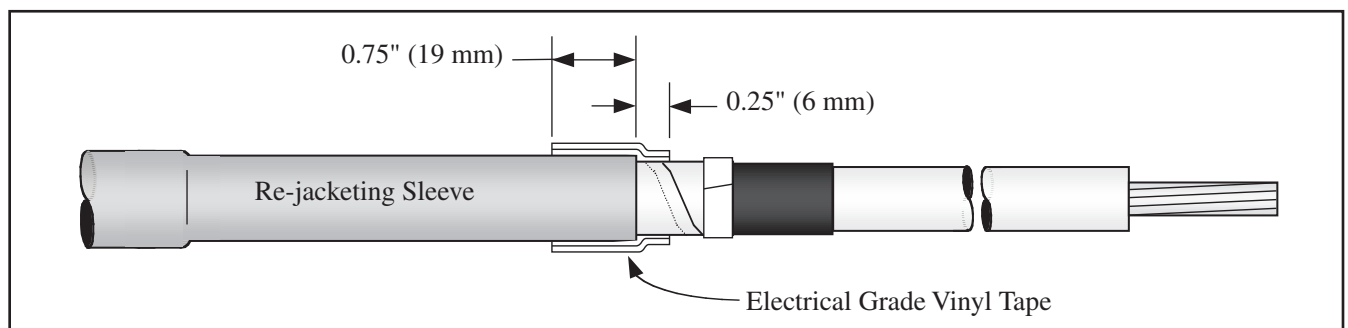

Figure 20
6.3 Secure re-jacketing sleeve with two half-lapped layers of electrical grade vinyl tape (Figure 20). Start taping 0.75" (19 mm) over re-jacketing sleeve, extend 0.25" (6 mm) over cable metallic shield and return to starting point.